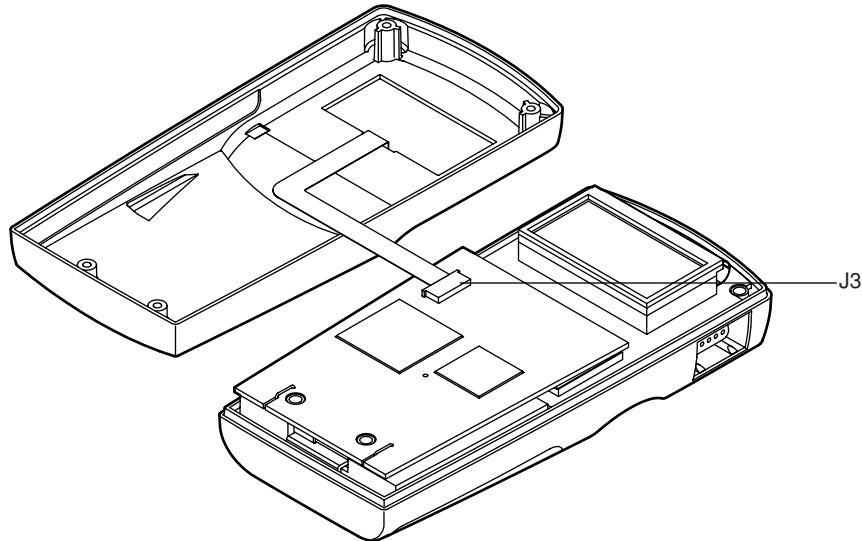

Figure 5-2: Top Case Removal
4. Separate the case top from the bottom case on the right side of the unit and rotate the case top to the left as shown in Figure 5-2.